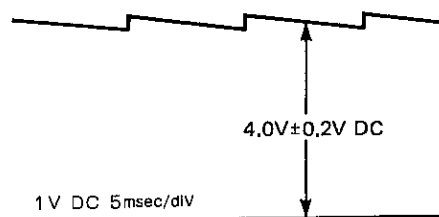

Figure 38.
2. Monitoring TP5 with an oscilloscope, adjust R752 (drum lock) to the requirement in Fig. 38.